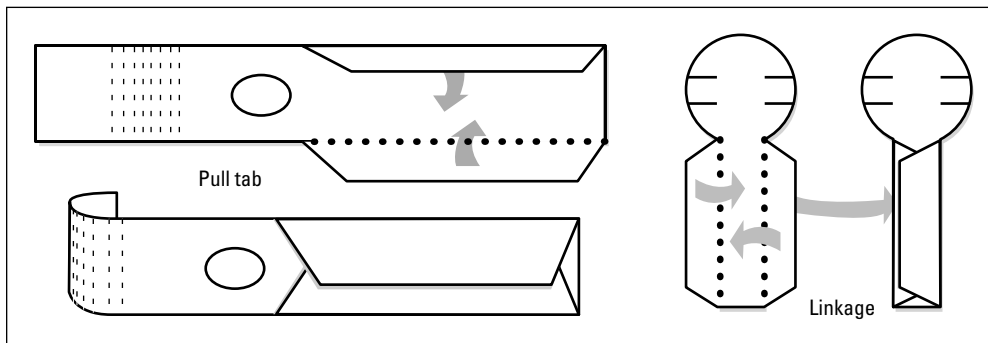

Figure 8-14:
- Complete the pull tab and linkage by folding the tabs over and gluing them down (see Figure 8-14).